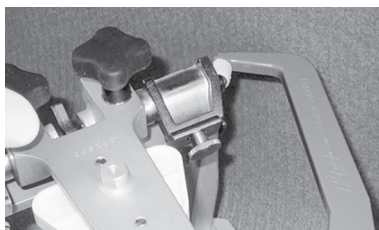

Figure 20
4. Position the brass mounting pin located on the outer edge of the upright on the lower frame into the hole on the medial side of each earpiece of the facebow. (Figure 20)